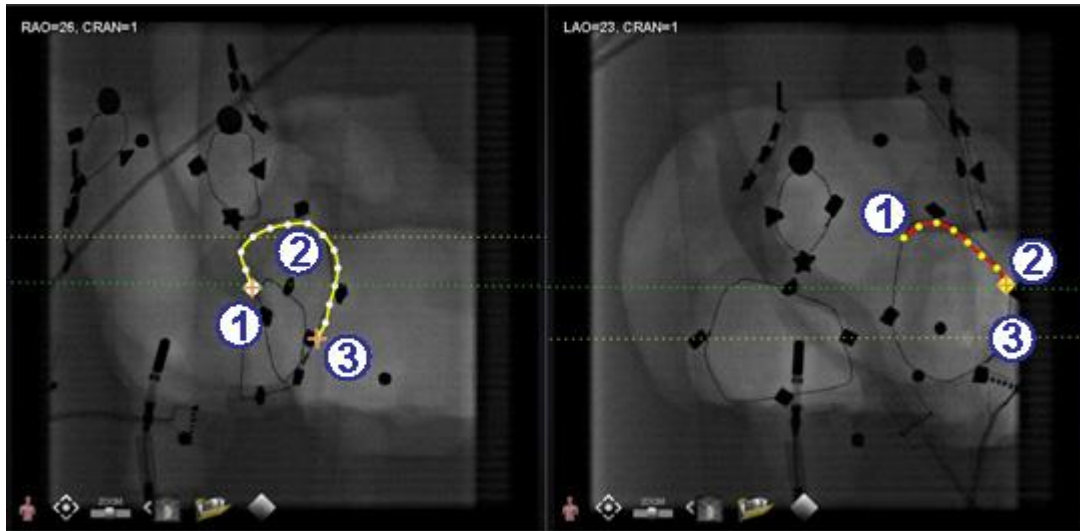

Figure 224. On complementary image, last point drawn is distal point
Distal point in progress guide (Figure 224)
As you mark a vessel on a complementary fluoro (as on the LAO fluoro in **Figure 224**), your last point drawn is the distal point. The yellow dotted line in the original fluoro (RAO below) indicates the distal point of the complementary fluoro.
- ① Proximal anchor point
- ② Distal point of the active drawing (LAO in **Figure 224**)
- ③ Distal anchor point of the original drawing (RAO in **Figure 224**)